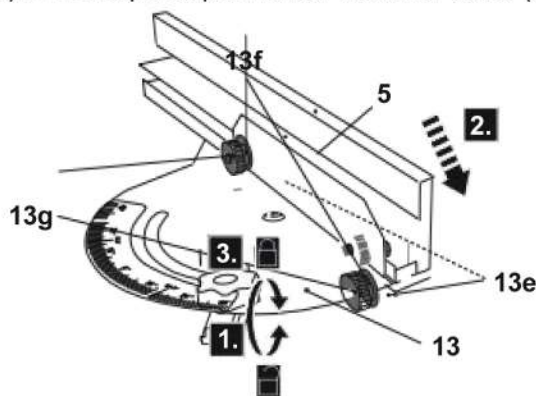

Fig. 6
- > Loosen the locking nut (13g) (fig. 6, step 1).
- > Slide the screw head (13e) into the channel of the short guide (5) (fig. 6, step 2).
- > Tighten the locknut (13g) and washer (13f) to secure the short guide (5) in the required position on the miter fence (13) (fig. 6, step 3).